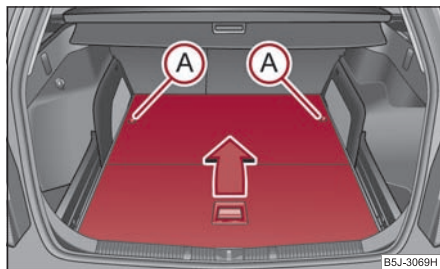

Fig. 82 Luggage compartment: Fold up variable loading floor
- Unlock the loading floor by turning the locking bolts ① by approx. 180° to the left ⇒ fig. 82.